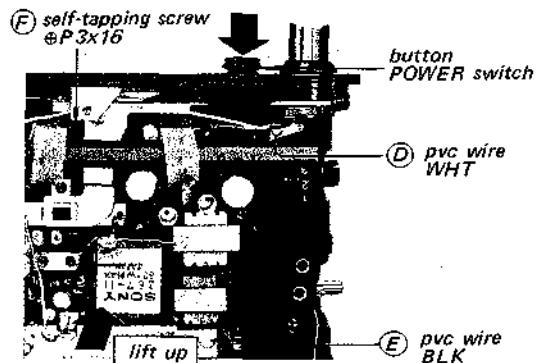

Fig. 2-4.
2. Push the POWER switch button as shown in Fig. 2-4.
3. Unsolder the pvc wires labeled **D** and **E** in Fig. 2-4.
4. Remove the screw labeled **F** in Fig. 2-4.